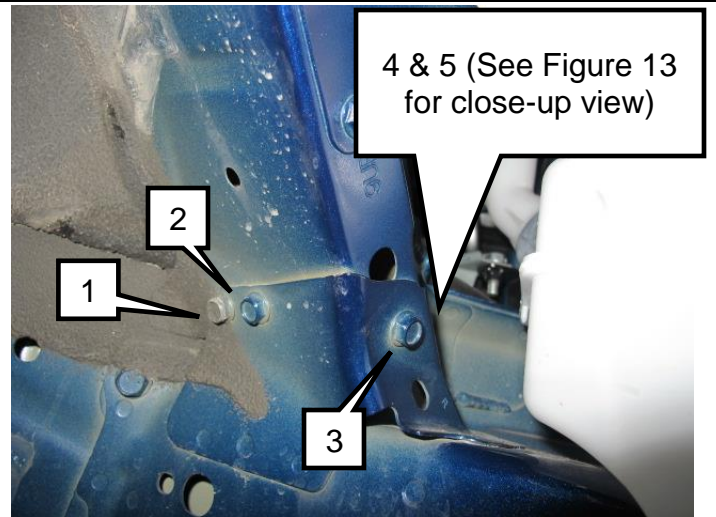

Figure 12
12. Torque (5) 10mm (RH) front member auxiliary bolts.
- Bolts 4 & 5 are between the frame and the washer tank (Figures 12 & 13)